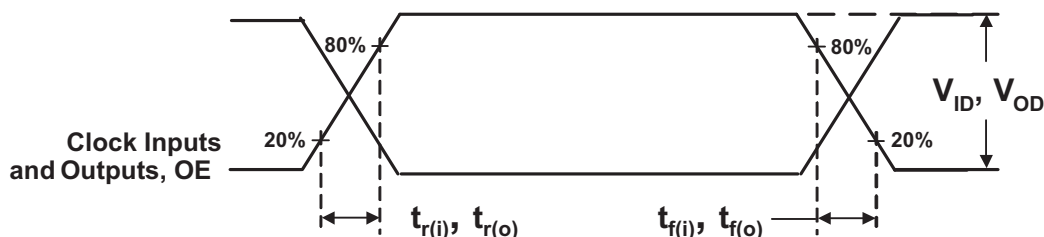

Figure 9. Input and Output Slew Rates
- (1) The PLL is turned off and bypassed for test purposes when AV_{DD} is grounded. During this test mode, V_{DDQ} remains within the recommended operating conditions and no timing parameters are specified.
- (2) V_{ID} is the magnitude of the difference between the input level on CK and the input level on $\overline{\text{CK}}$, see Figure 9 for definition. The CK and $\overline{\text{CK}}$, V_{IH} and V_{IL} limits define the dc low and high levels for the logic detect state.
(1) V_{OD} is the magnitude of the difference between the true and complimentary outputs. See Figure 9 for a definition.(2) Total $I_{DD} = I_{DDQ} + I_{ADD} = f_{CK} \times C_{PD} \times V_{DDQ}$, solving for $C_{PD} = (I_{DDQ} + I_{ADD}) / (f_{CK} \times V_{DDQ})$ where f_{CK} is the input frequency, V_{DDQ} is the power supply, and C_{PD} is the power dissipation capacitance.